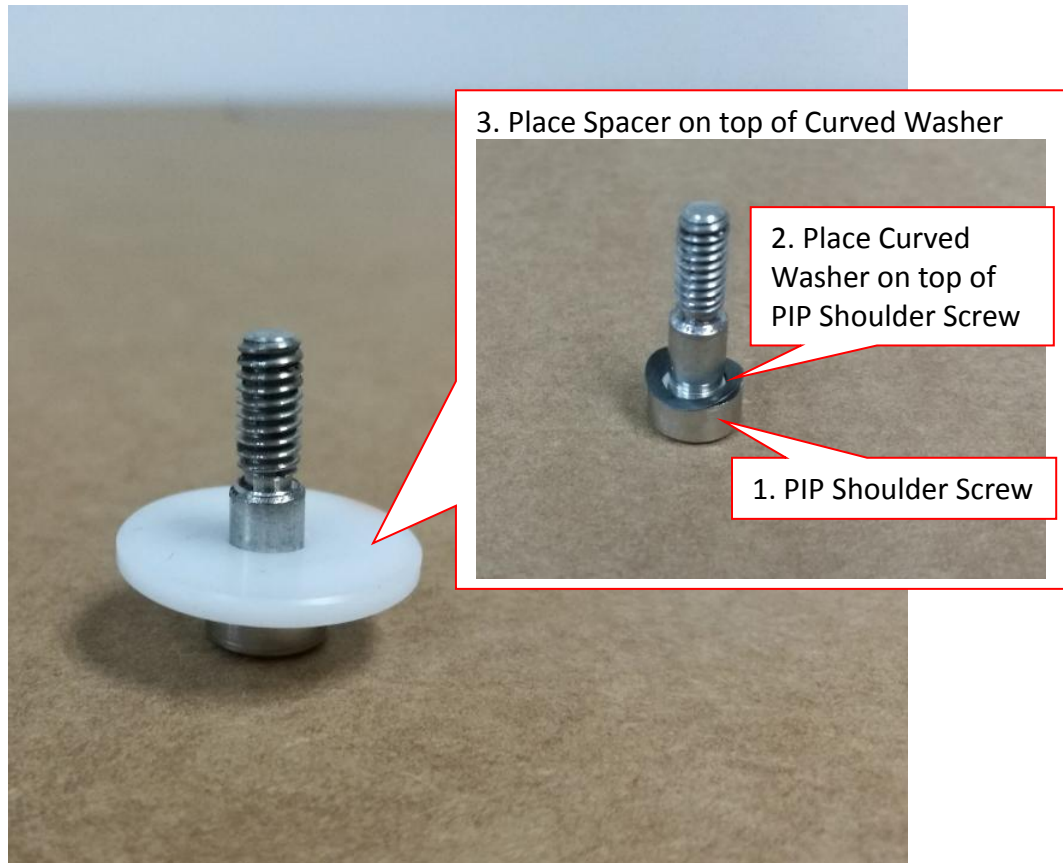

Figure 7 PIP Shoulder Screw Assembly
3. Arrange below fastening kit by refer below sequence. May refer to Figure 7.